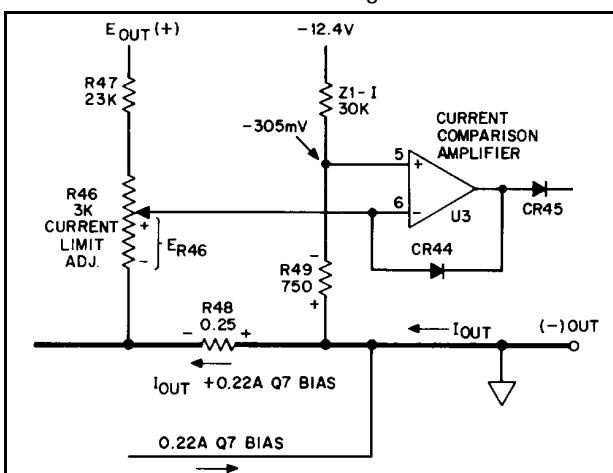

Figure 4-1. Foldback Current Limit Circuit in 6V Supply
4-28 **Current Foldback Circuit.** (For this discussion refer to the Figure 7-1 schematic and to Figure 4-1.) The differential input signal to the current comparison amplifier is the algebraic sum of three circuit voltages:
2. The voltage across the lower part of R46 (see Figure 4-1). ER46 is proportional to the regulator output voltage and equals 440mV when the supply output is 6 volts.